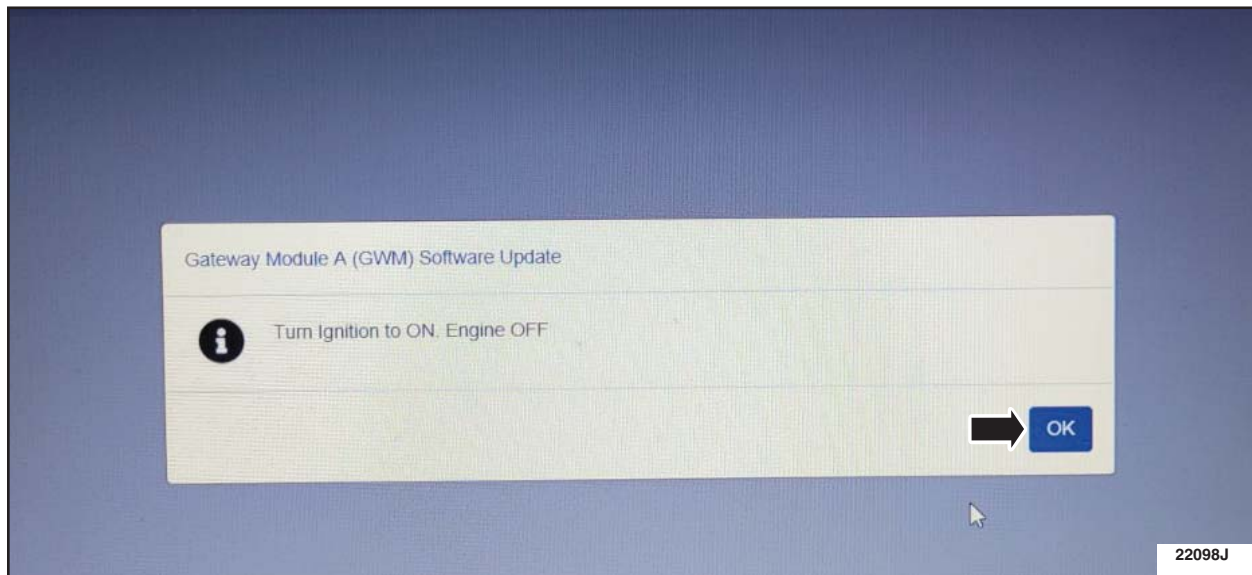

FIGURE 20
24. Turn ignition to the ignition on engine off position and click the OK icon on the FDRS screen. See Figure 20.